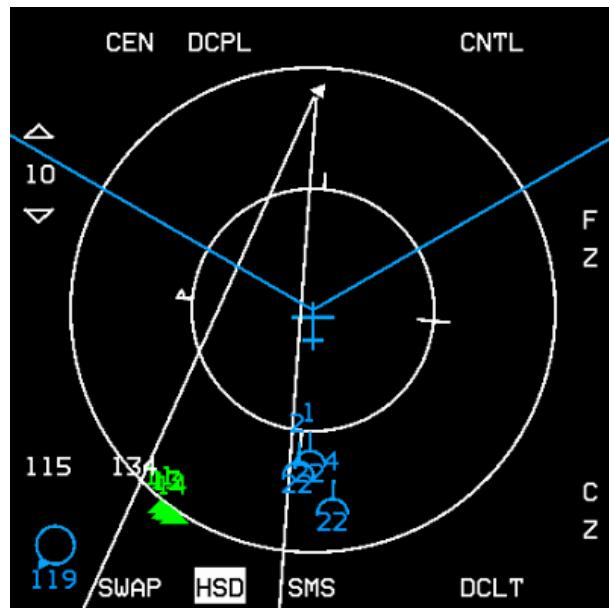

Figure 9 Friendly wingmen off HSD (bottom left)
- Data Link Targets (see Figure 9). Outside the HSD FOV. Data link friendly or data link unknown targets which are outside of the HSD field-of-view are indicated by an arrow pointing in the direction of the target positioned on the outer range ring of the HSD.